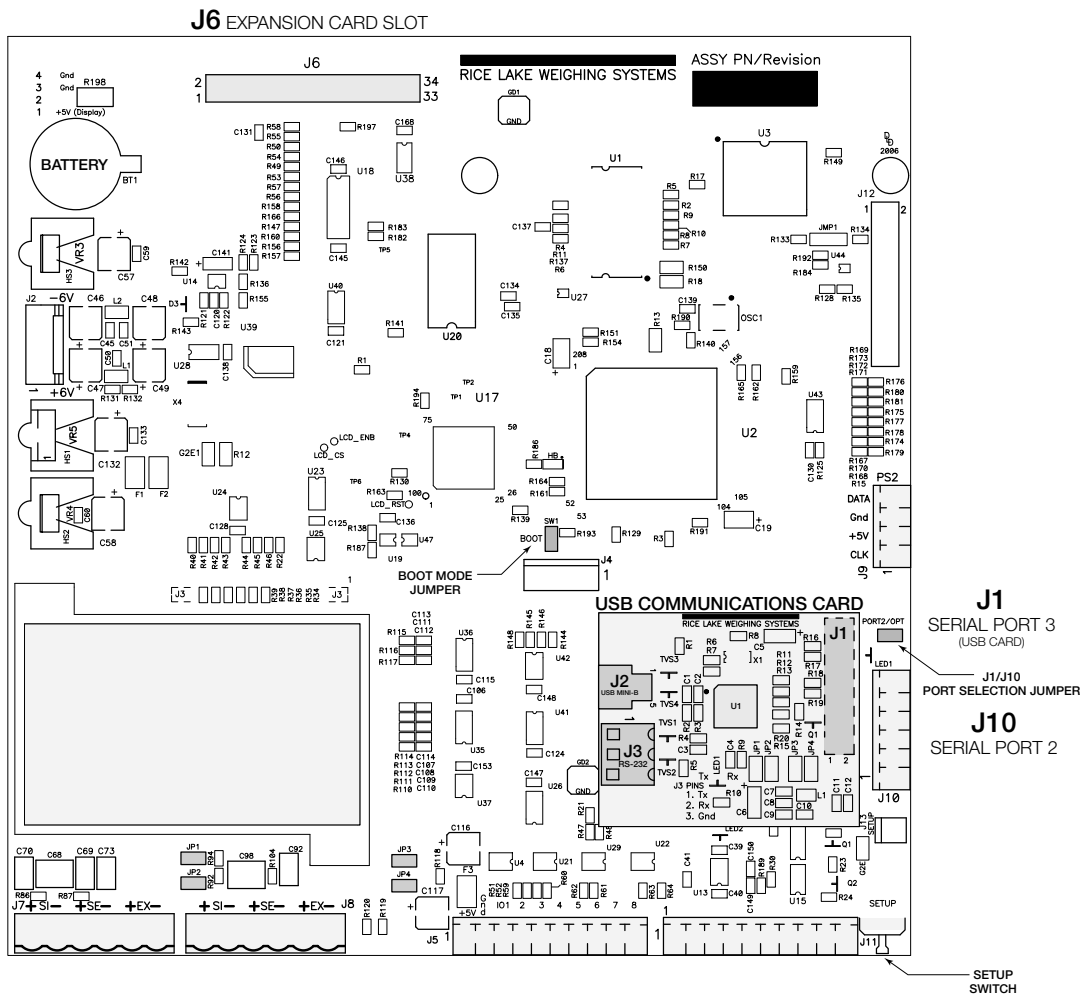

Figure 1. USB Interface Card Installed on 820i CPU Board
3. If using the 820i, remove the J1/J10 port selection jumper (see Figure 1). Removing the jumper disables RS-232 communications through connector J10. Connections for simultaneous RS-232 and USB communications are provided on the USB interface card, with USB data handled by Port 2, RS-232 data by Port 3.